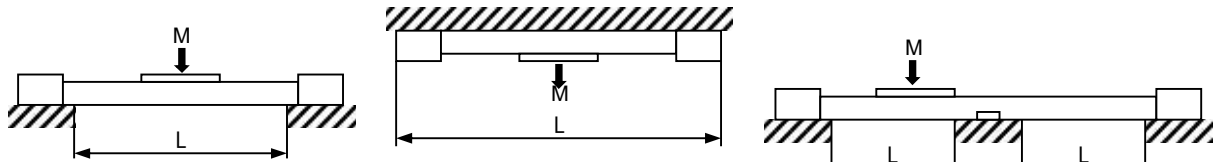
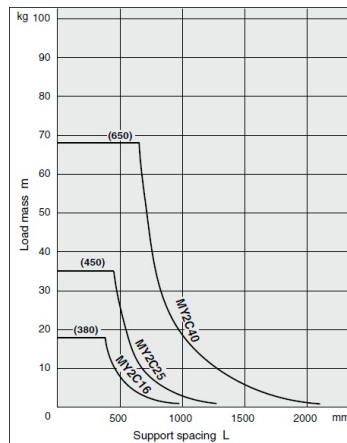

Fig. 6
Fig. 7
- The cylinder tube of MY2C series may deflect due to its own weight, load, or etc. When the cylinder tube is deflected, hold the cylinder at the intermediate position using the side support. Support spacing (L) shown in Fig. 6 must be the values shown in Fig. 7 or less.